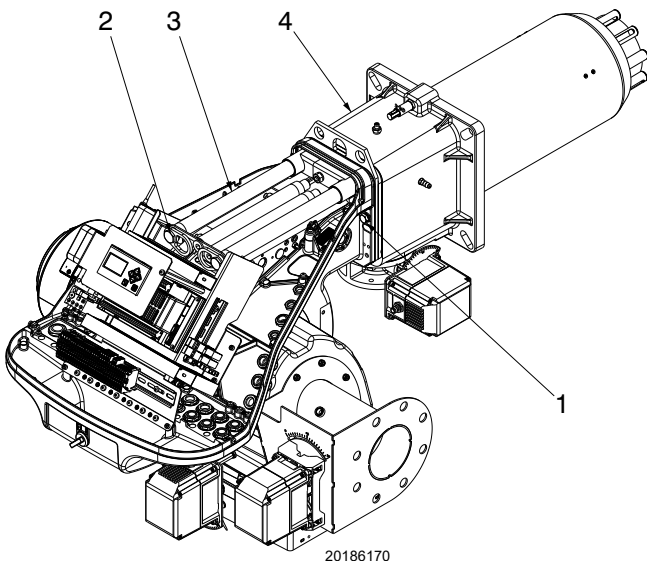

Fig. 19
- insert the electrode cable, then slide the burner as far as the pipe coupling - burner in the position shown in Fig. 19;